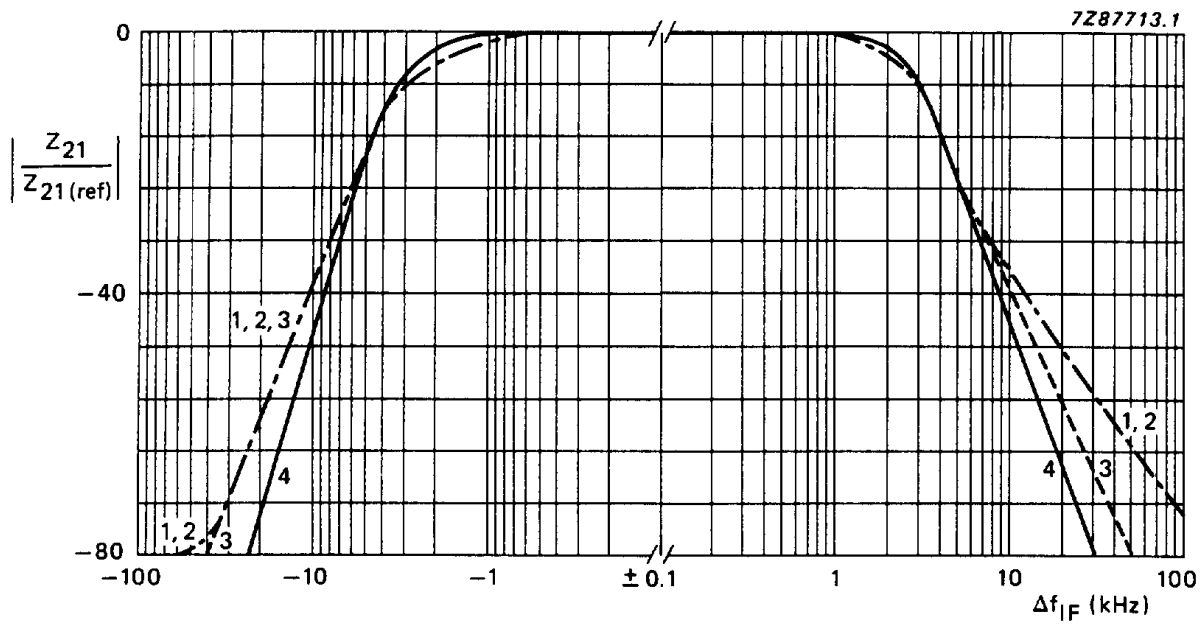
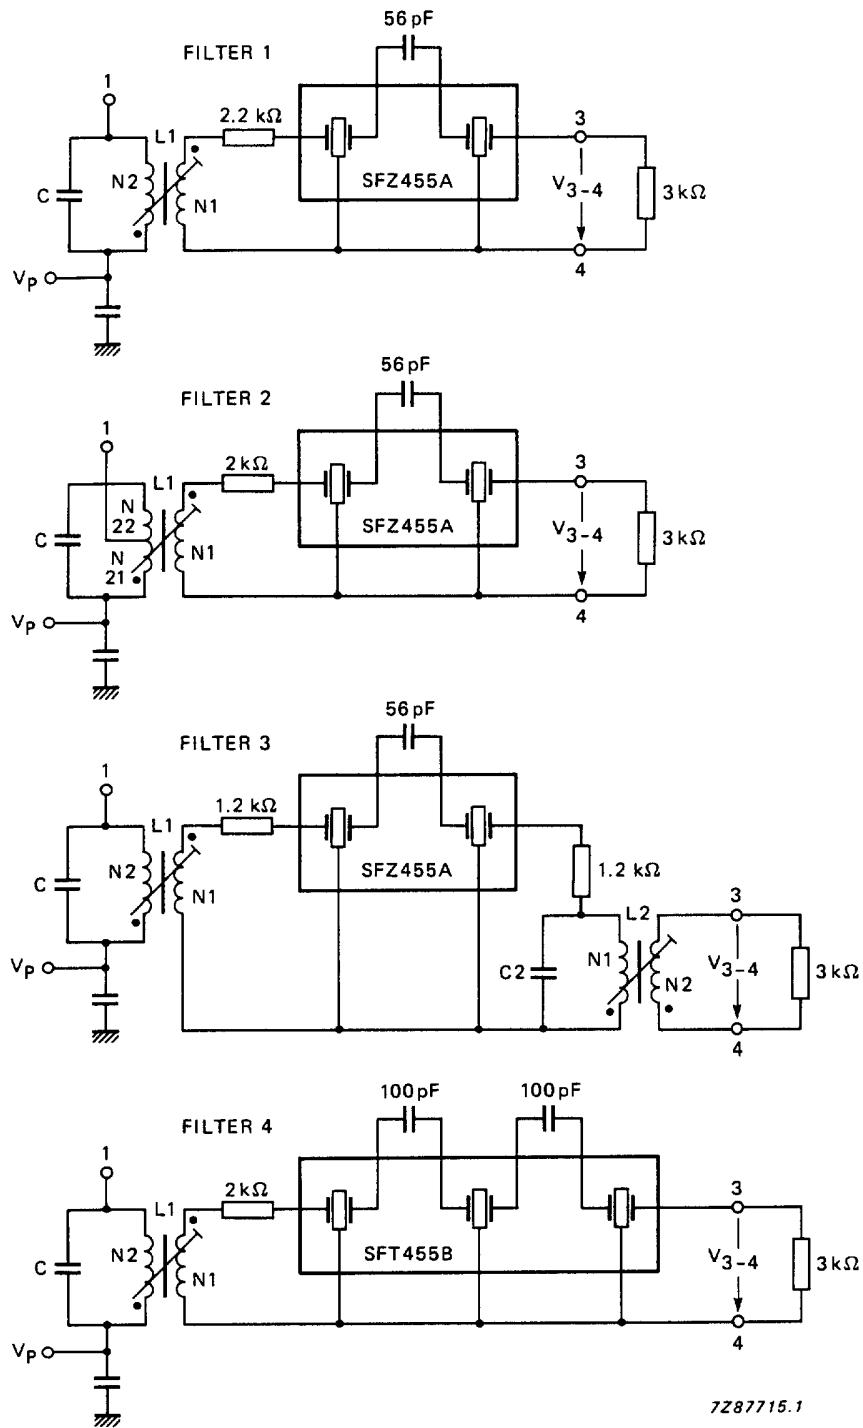

Fig.14 Forward transfer impedance as a function of intermediate frequency for filters 1 to 4 shown in Fig.14; centre frequency = 455 kHz.
Fig.15 IF filter variants applied to the circuit of Fig.1; for filter data refer to Table 1.
**Table 1** Data for IF filters shown in Fig.15. Criterion for adjustment is  $Z_F = \text{maximum}$  (optional selectivity curve at centre frequency  $f_0 = 455 \text{ kHz}$ ). See also Fig.14.